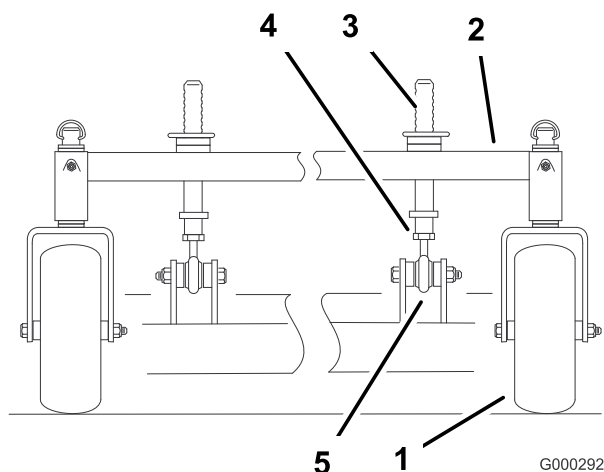

Figure 67
1. To change the front-to-rear pitch, the front height-of-cut posts can be adjusted (Figure 67).
2. To raise the front of the deck, loosen jam nut and rotate the front pin clockwise (Figure 67).
3. To lower the front of the deck, loosen jam nut and rotate the front pin counter clockwise (Figure 67).
6. Tighten the jam nuts (Figure 67).